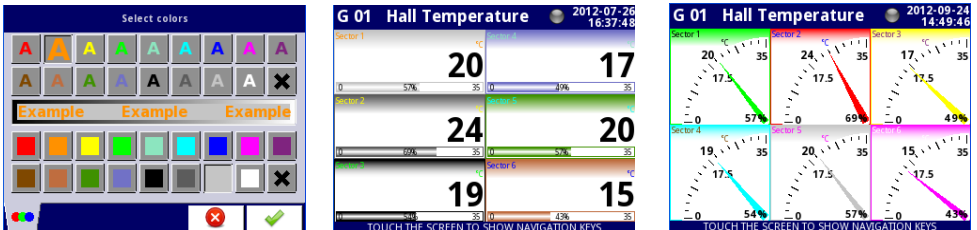

Fig. 7.141. Style color select screen and examples of views with changed styles
- **Style** – defines the color which will be used to draw the logical channel selected in this **Slot**. The user can specify the font color in the channel (except value color) and the drawing color of all elements connected with channel visualisation (see Fig. 7.141). By using black **X** buttons the user can return to default settings.